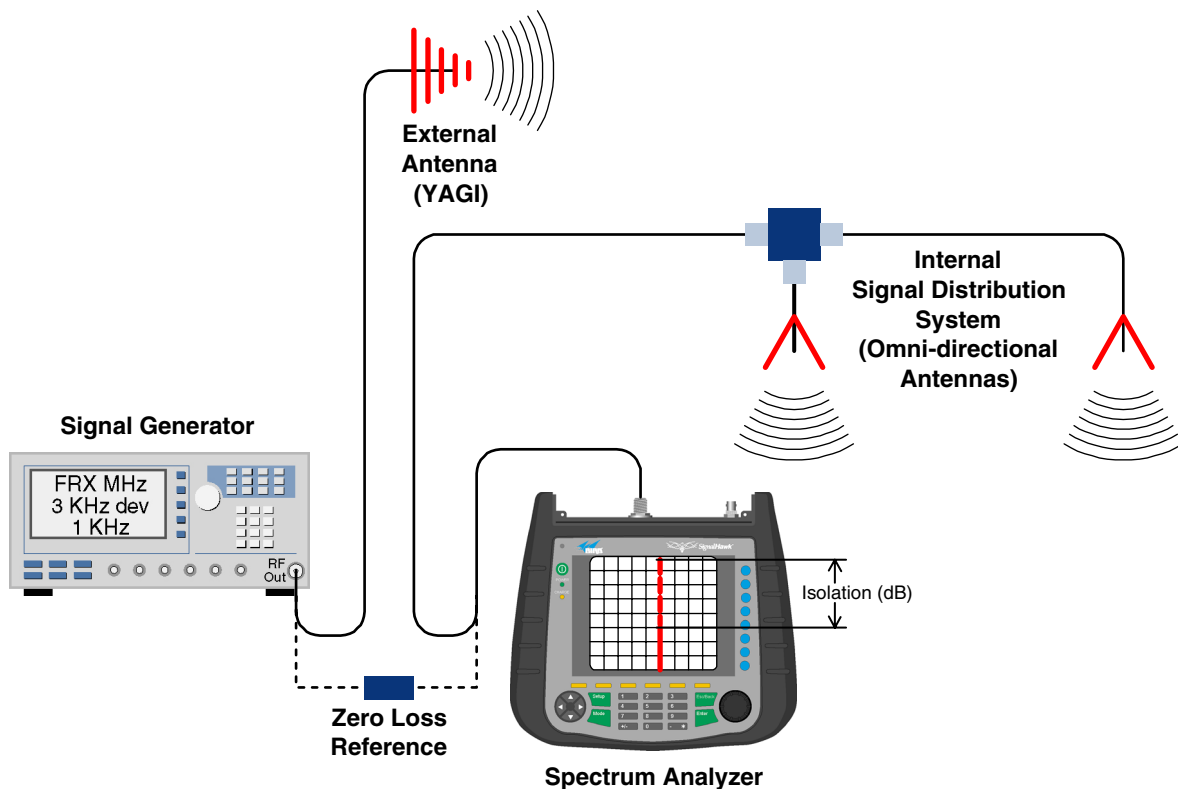

Figure 2: Typical test equipment interconnection for measuring antenna isolation.
| Figure 2: Measuring Antenna Isolation..... | 4 |
- 3) Temporarily connect the test leads of the signal generator and spectrum analyzer together using a female barrel connector, see **Figure 2**. Observe the signal on the analyzer and adjust the input attenuator of the spectrum analyzer for a signal level that just reaches the 0 dBm level at the top of the graticule.
- 4) Referring to Figure 2, connect the generator test lead to one side of the antenna system and the spectrum analyzer to the other then observe the signal level. The difference between the observed level and 0 dBm is the isolation between the sections. If the signal is too weak to observe, the spectrum analyzer's bandwidth may have to be narrowed and it's input attenuation reduced. The isolation value measured should exceed the signal booster's gain figure by at least 15 dB.